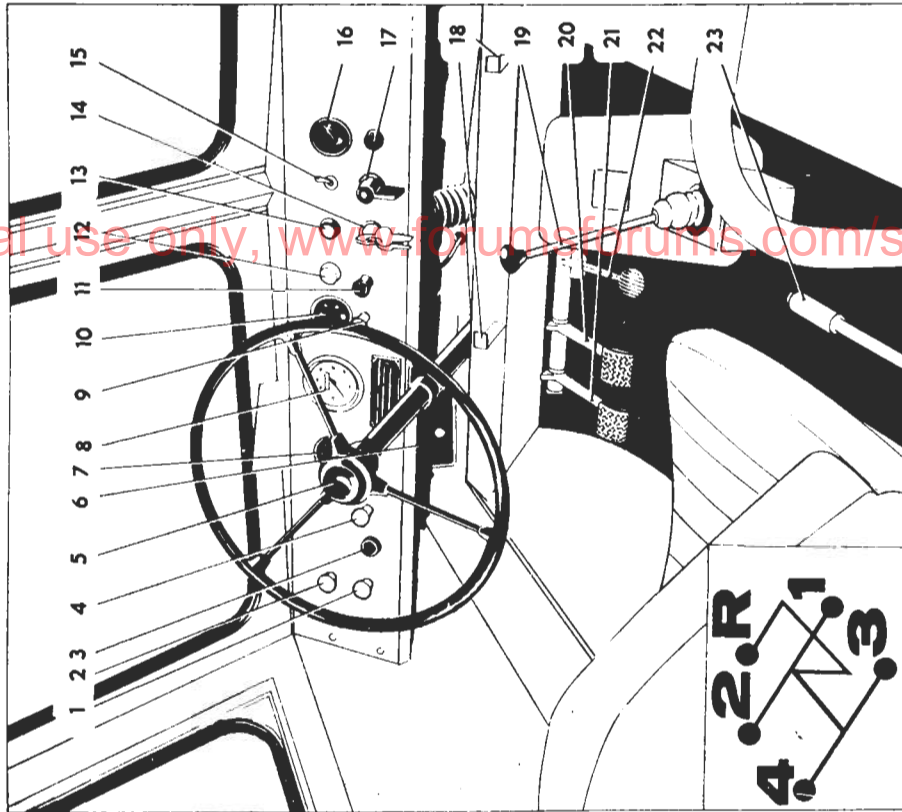

Fig.1
- 19. Gear lever** The gear positions are shown in the insert in fig. 1.